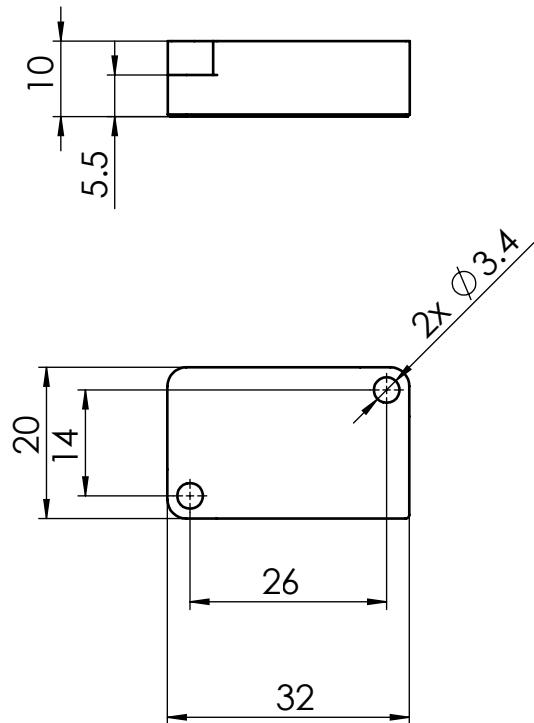

Fig. 4-5: Dimensions
2. Create two vertical drilled holes with an M3 internal thread or a corresponding through hole that fits to the mounting holes of the BCM in the installation surface (for dimensions, see Fig. 4-5).